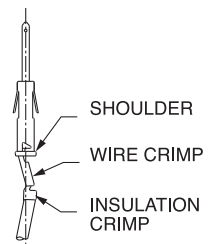

**Figure 5 - Unacceptable**
- Remove the wire and inspect the crimp. The strands should be visible at both ends of the crimp. There should be no loose strands (see Figures 1-3). The contact should be co-linear with the wire (see Figure 4). Bent contacts are unacceptable (see Figure 5).